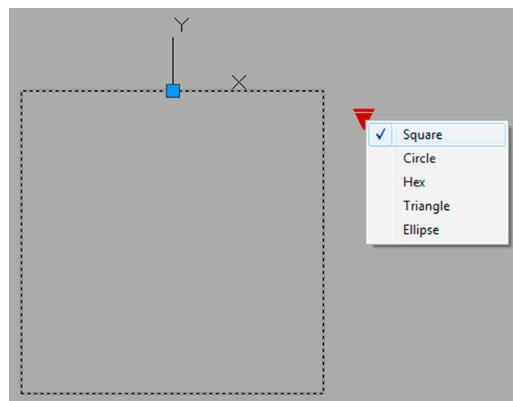

FIGURE 7.25 Visibility state menu.
Step 7. When you completed setting all of the visibility states, test them out via the Test Block button all the way on the left of the Ribbon's Block Editor tab. A new tab opens; go ahead and click on the block. Fig. 7.25 shows the first visibility state (square) with the drop-down menu revealing the rest of the choices. Click through each one to test each visibility state. When done, exit the test tab and save the dynamic block. It is now ready for use.